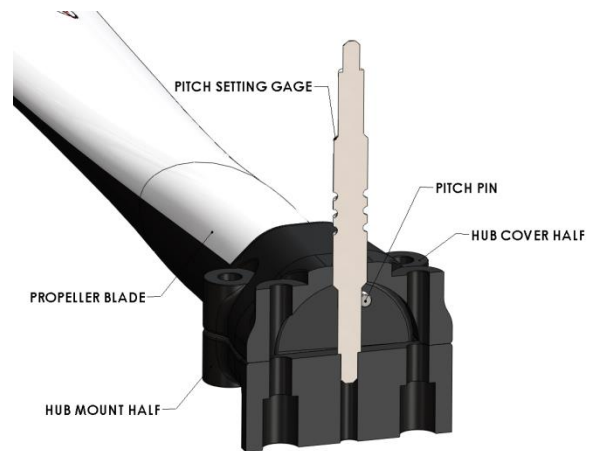

FIGURE 4. PITCH SETTING GAGE
6. Insert the pitch setting gage thru the clearance hole in the hub cover half and into the receiving hole in the hub mount half. See **Figure 4**. Use pitch setting gage #3 to start. The pitch setting # indicates relative pitch; pitch #5 is higher pitch than pitch setting #4, etc...
4. Insert the desired pitch setting gage thru the clearance hole in the hub cover half and into receiving hole in the hub mount half. See **Figure 4**.